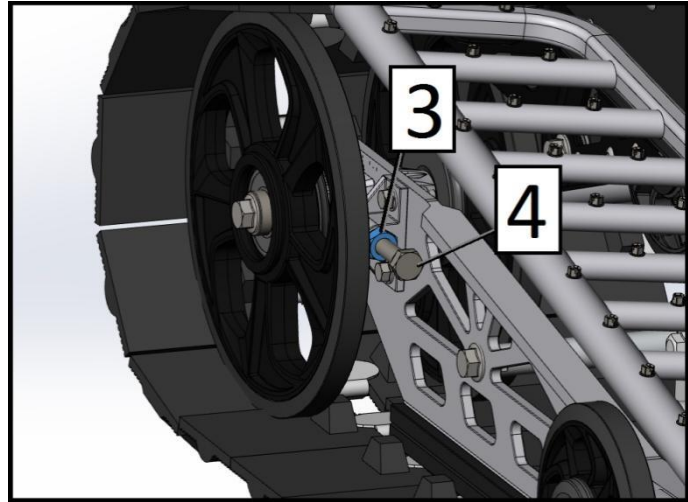

Fig. 40
3. Loosen the lock nut of the adjusting bolt (posture 3, Fig. 40).
4. Tighten or loosen the two adjusting bolts (Pose 4, Fig. 40) to the same angle (speed) to increase or decrease the track tension.